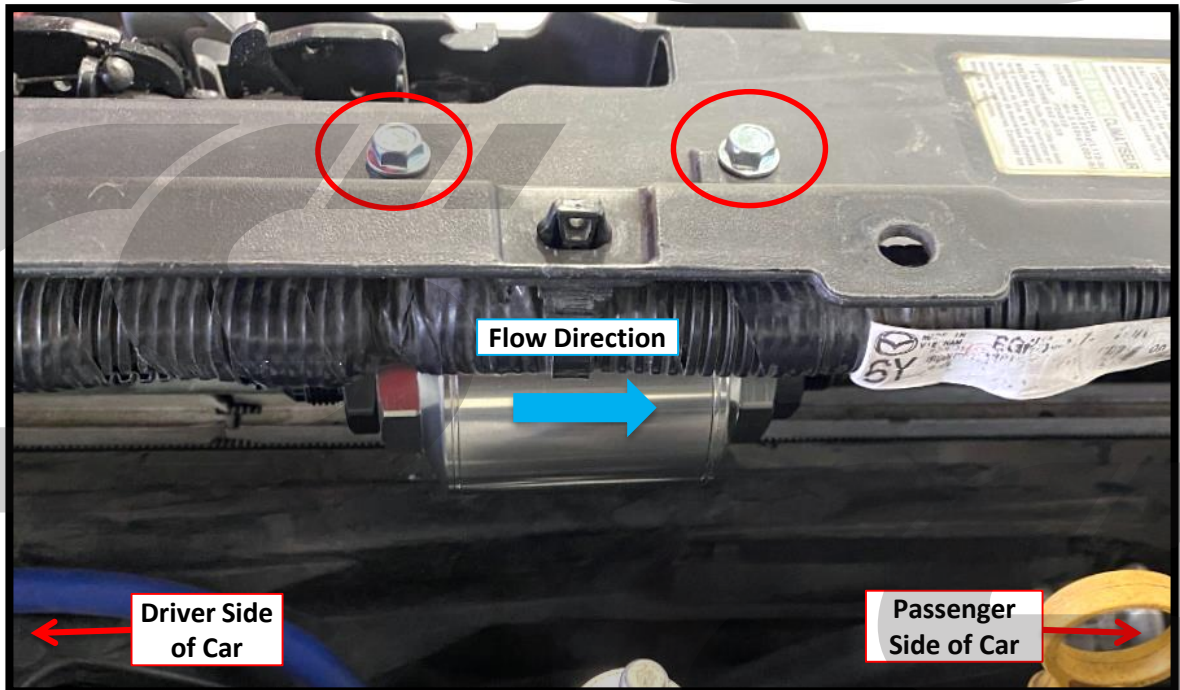

Figure 11h
- m) Mount your assembled DWFF70 to the radiator core support using supplied M6x1.0x16mm bolts and M6 nuts. Ensure the flow direction of the filter matches what is shown in **Figure 11h**. Tighten until snug with a 10mm socket and wrench.